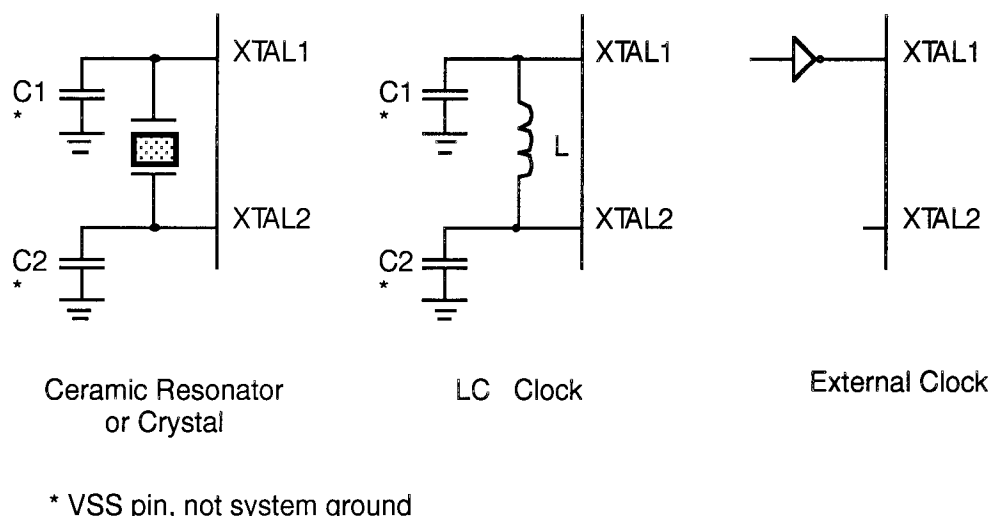

Figure 17. Oscillator Configuration
Clock. The Z86E23 on-chip oscillator has a parallel-resonant amplifier for connection to a crystal, LC, ceramic resonator, or any suitable external clock source (XTAL1=Input, XTAL2=Output). The crystal should be AT cut, 4 MHz max; series resistance (RS) is less than or equal to 100 ohms. The crystal should be connected across XTAL1 and XTAL2 using the recommended capacitors ($10 \text{ pF} < \text{CL} < 150 \text{ pF}$) from each pin to ground (Figure 17).